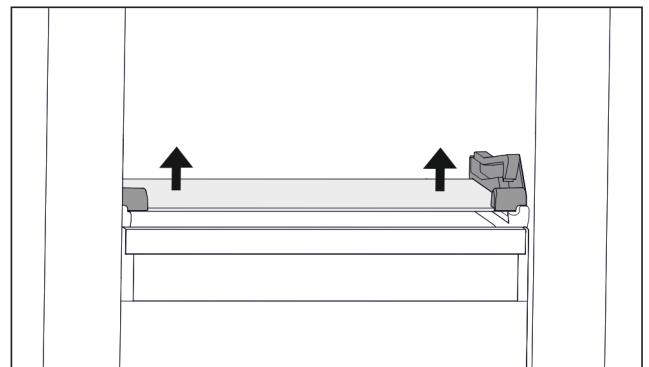

Fig. 107 Tilting drawer glass shelf
- ▶ Press the glass shelf upwards from below on both sides. (see Fig. 107)